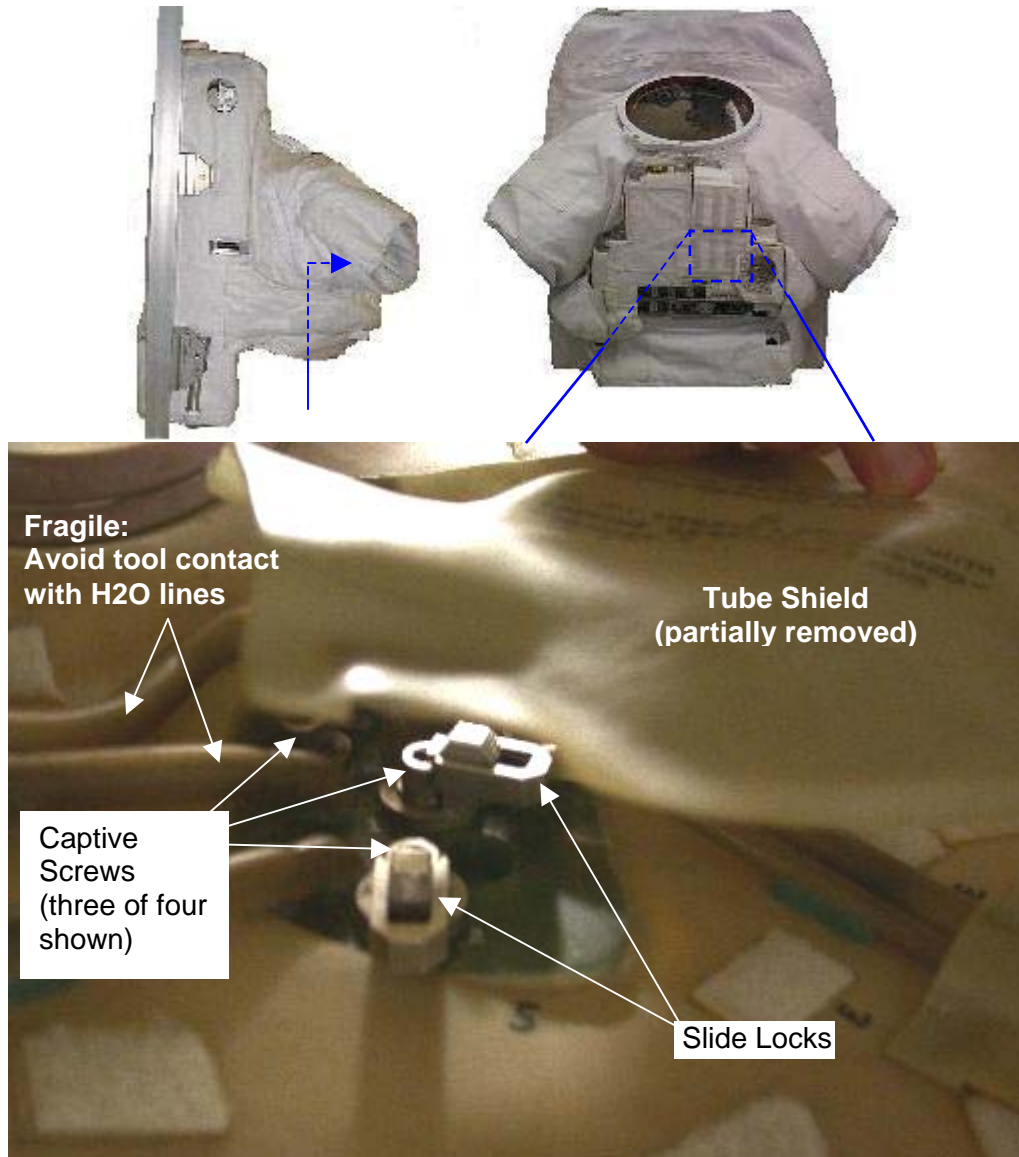

Figure 3.- DCM-to-HUT Interface (inside, front of HUT)
9. Disengage slide-locks (two) on DCM captive screws. Refer to Figure 3.